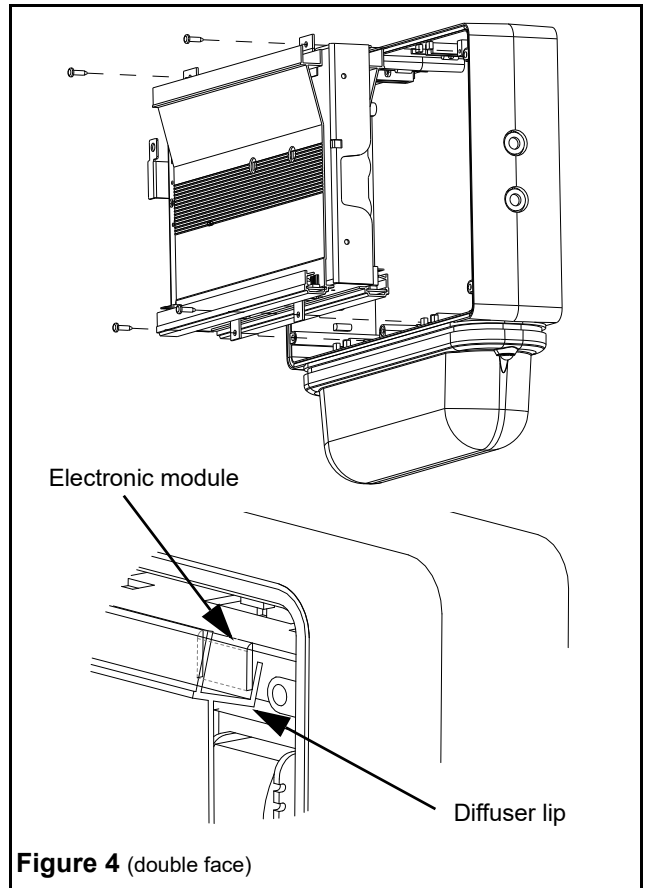

Figure 4 (double face)
- k. For double face models: Before re-installing the electronic module, you must first re-install the diffuser (9) by clipping the top section to the electronic module and then screwing the bottom section (see fig. 4).